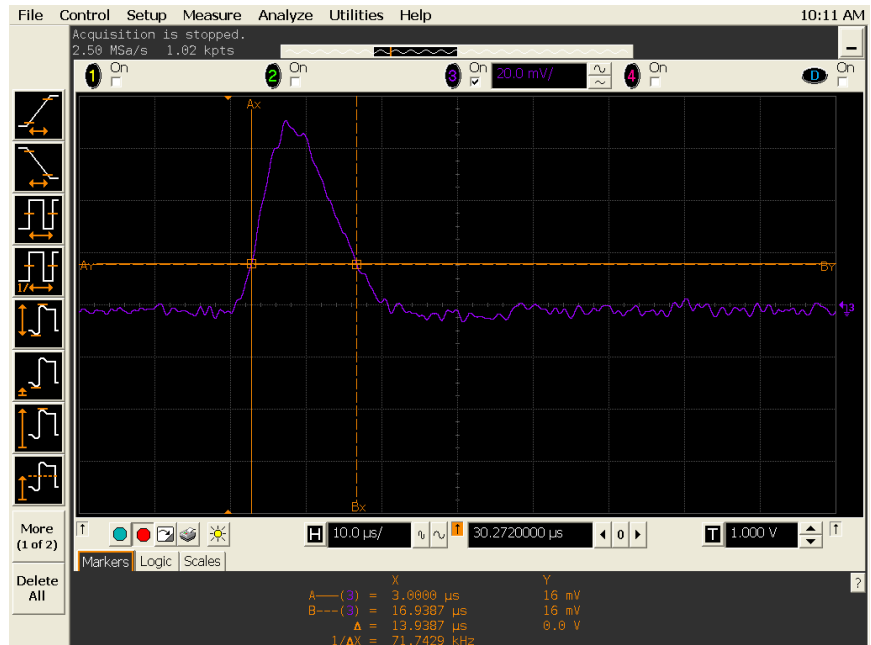

Figure 5-9 Graph of load transient response
- 7 Adjust the oscilloscope to display transients as shown in Figure 5-9. Note that the pulse width (t_2-t_1) of the transients at 15 mV from the base line is no more than 50 μ s for the output.